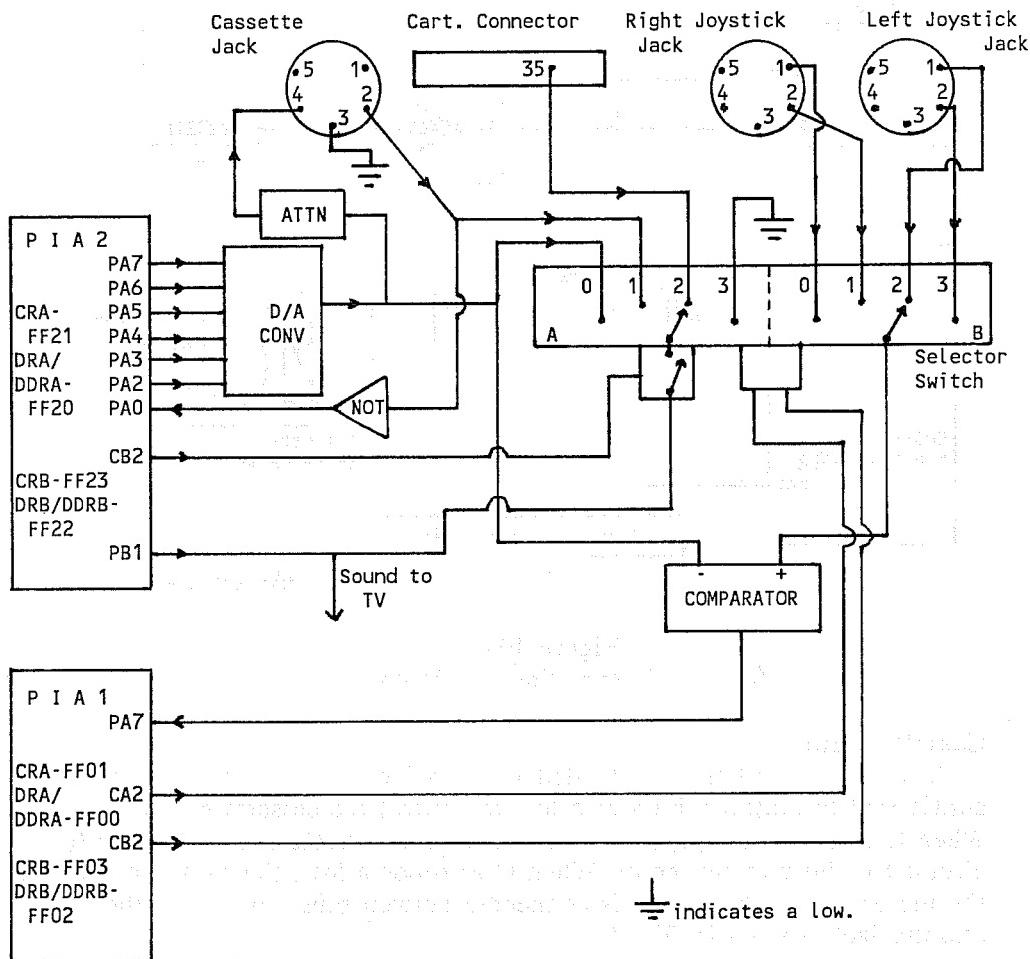

Figure 10-3
Fig. 10-3 shows the components and their interconnections used to input from the cassette and the joystick positions and to output to cassette and generate sound. Many of the components may not be familiar to you, so they are described here.
■ Selector Switch - The selector switch is a dual unit composed of two four-position switches, shown in Fig. 10-3. One half is designated the A switch, and the other the B switch. The position of both switches is controlled by the CA2 and CB2 signals from PIA 1. CA2 and CB2 must be configured for output so a control code can be sent to the selector switch. The four possible combinations of the states of CA2 and CB2 put both selector switches in one of their four possible positions. The corresponding codes and switch positions are shown in Table 10-2.
■ Comparator - The comparator compares the magnitude of two analog voltages and indicates which is greater. The comparator has two inputs labelled (+) and (-). If the voltage sent to the (+) input is higher (more positive) than the voltage at the (-) input, the comparator outputs a high. If the voltage sent to the (-) input is the higher of the two, the comparator outputs a low. As presented in Fig. 10-3, the (-) input is connected to the output of the D/A converter and the (+) input is connected to the B selector switch. The B selector switch is used to select different analog voltages to be compared with the output of the D/A converter. The comparator is used in conjunction with the D/A converter to form a successive approximation analog-to-digital converter. This is described in more detail in the joystick section later in this chapter.
■ Attenuator - An attenuator is connected between the output of the D/A converter and pin 4 of the cassette jack, shown in Fig. 10-3. This is the path an analog voltage takes on its way to the cassette to be recorded. The attenuator reduces the magnitude of the range of the analog voltage going to the cassette to approximately a range of zero to plus one volt; most cassettes are designed to accept this voltage range. One could also
Each joystick sends two analog voltages that vary according to its position to the computer. One voltage from a joystick varies in proportion to its forward and backward position and the other to its left and right position. The forward/backward voltage comes in pin 2 and the right/left voltage comes in pin 1 of the joystick jack, shown in Fig. 10-3. The voltage ranges from zero, joystick full forward or leftward, to 4.5 volts, full backward or rightward. The position of a joystick is determined by selecting each output with the selector switch, and measuring the voltage. The voltage is measured by converting it to a digital value with the successive approximation analog-to-digital, or A/D, converter.
Sound through the TV can come from four sources: the D/A converter, the cassette, a cartridge, and PB1 of PIA 2. Selector switch A selects one of the first three sources. Position 3 of selector switch A is connected to a low and is used when no sound is desired. This can be seen in Fig. 10-3.